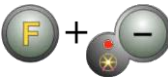

**Fig. F6.4 Input of the weight W2 position**
6. If the angle is greater than 120°, the machine will display the message shown in figure F6.2 for one second and will emit a triple beep indicating that another point must be chosen. If the angle instead is less than 120°, the machine will display the message shown in Fig. F6.4, allowing you to continue with the next step.